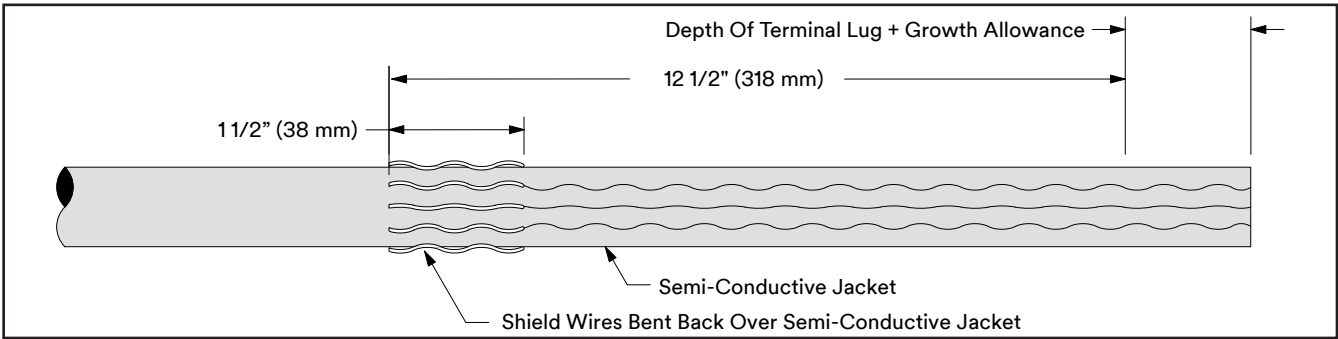

Figure 19
- 12.6 Remove constant force spring. Bend shield wires back upon semi-conductive jacket 1 1/2" (38 mm). Cut excess shield wire and discard (Figure 19).